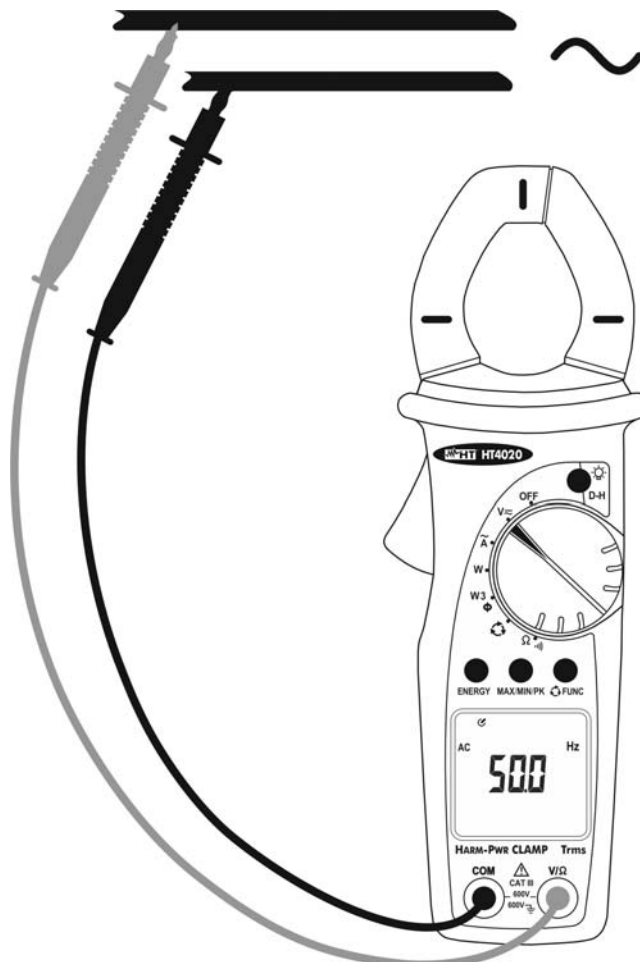

Fig. 5: Use of instrument for AC voltage frequency measurement
4. Connect the test leads to the circuit under test (see Fig. 5). The measured frequency of AC voltage value is displayed